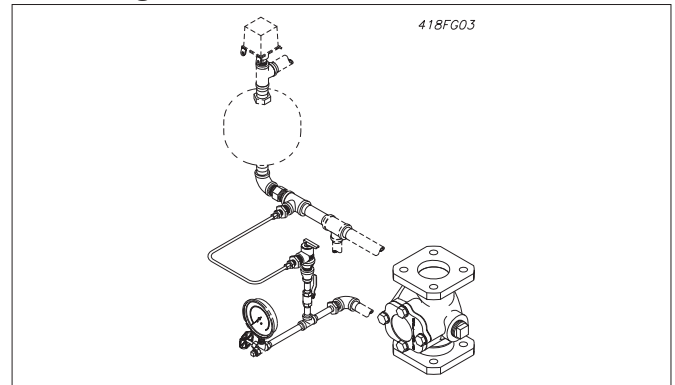

Fig. 3
- **Variable Pressure with Closed Retard Drain** – Retard is required. This trim set is used where water supply pressures vary. The retard chamber and the mechanical sprinkler alarm line are drained thru a closed, checked connection to the 1¼" drain line. Only one drain connection is required. Each trim set permits either horizontal or vertical installation. All trim sets can be fitted with an optional pressure relieve trim kit (Fig. 3, closed retard drain type shown).